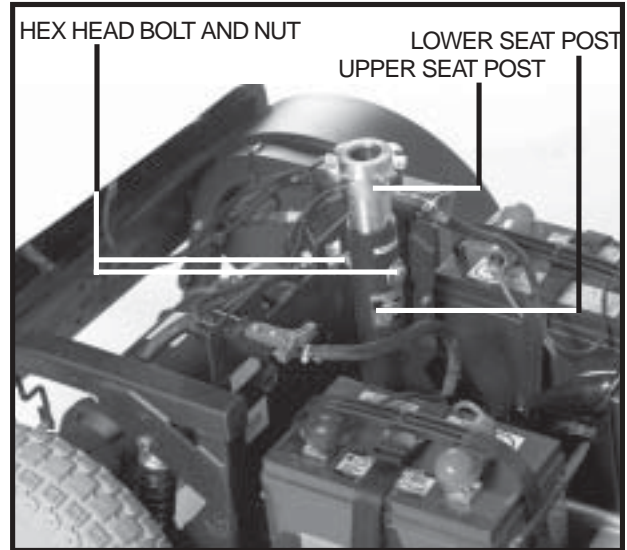

Figure 14. Seat Height Adjustment
3. Use two 17-mm spanners to loosen and remove the hex head bolt and nut from the seatpost. See figure 14.